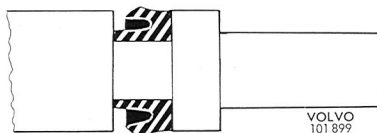

Fig. 5-58. The piston seal
4. Inspect the parts. If the cylinder surfaces are scratched or damaged by rust, the valve should be replaced complete. However, if the cylinder surfaces are not damaged, replace only plunger complete. When doing so, check that the seal is turned according to Fig. 5-58.